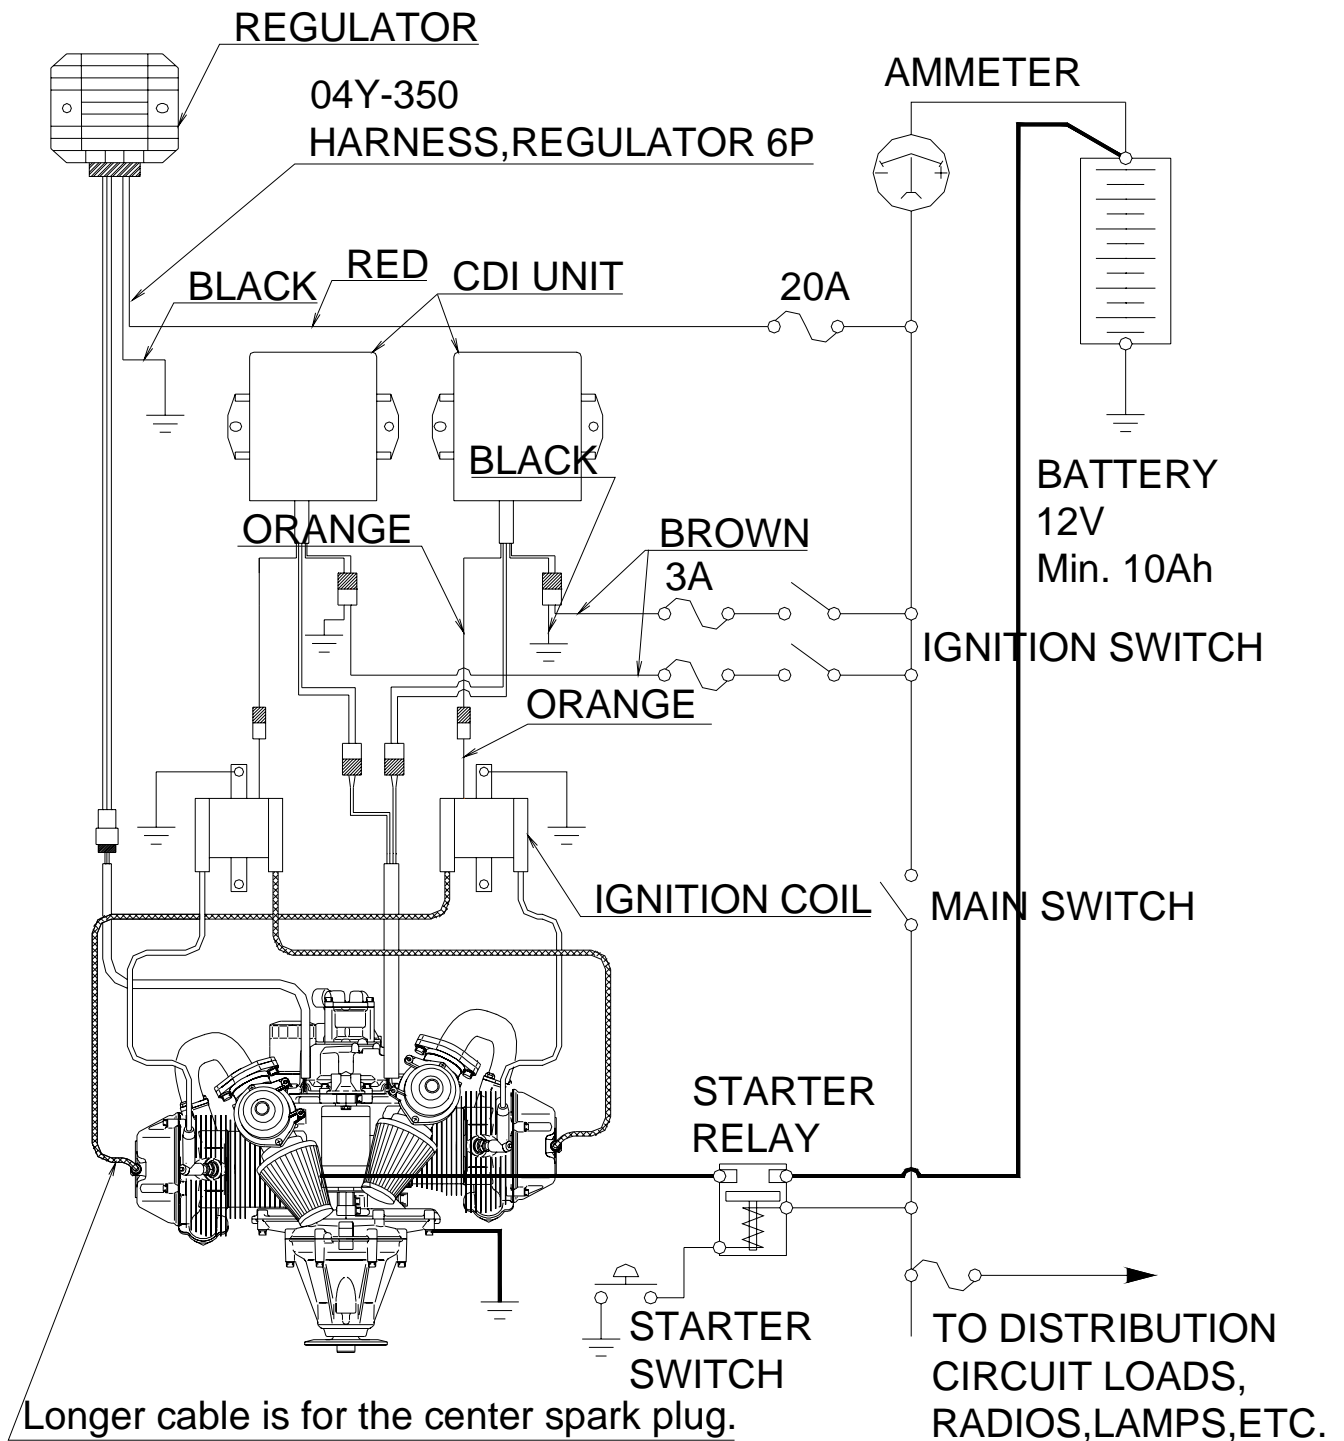

Fig.6 Electrical Equipment Wiring Diagram
Please refer to the electric equipment diagram in Fig 6.
A starter relay (04Y-309) must be used to run the starter motor (refer to Fig.6).
- Between the electrical accessory terminal (shown as user load terminal in Fig.6) and the main power supply.
Please follow the wiring diagram in Fig.6. If an extension lead is required, please order terminal connectors.
The lengths of the two cables from the ignition coils are different. The connector on the longer cable is for the spark plug located in the center of the cylinder only. Refer to Fig.6 for connections. To avoid shorting the cable or breakage, keep the cables away from touching cylinders or cylinder heads. Protect with spiral cut polyethylene tubing, a fuel line/tie-wrap standoff or clamp if necessary.
- Recheck the wiring according the electrical schematic in Fig.6.